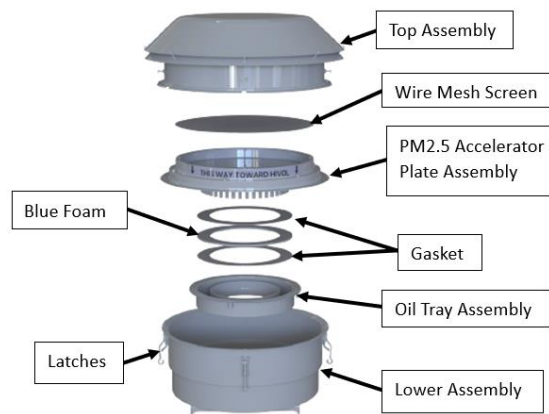

Figure 16 – PM_{2.5} Components Layout
1. **Open the Top Cover:** Release the four latches, gently lift and remove the top cover. Be careful not to damage it or the assembly. Refer to Figure 16.
4. **Reattach the Top Cover:** Lift the top cover back onto the SSI Inlet Assembly and secure it by closing the four latches. Refer to Figure 16.